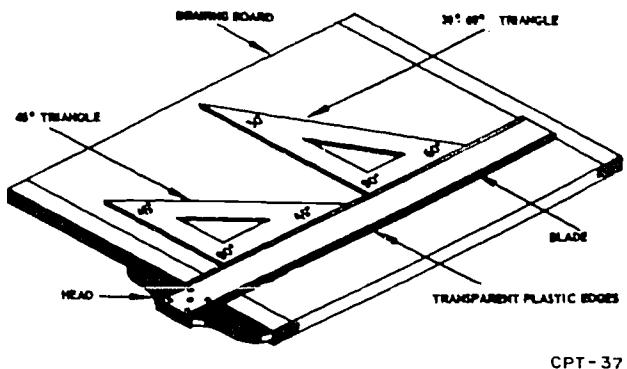

Figure 1-57. T-square and triangles.
**T-square and triangles.** Figure 1-57 shows two triangles and a T-square on a drawing board. The T-square shown